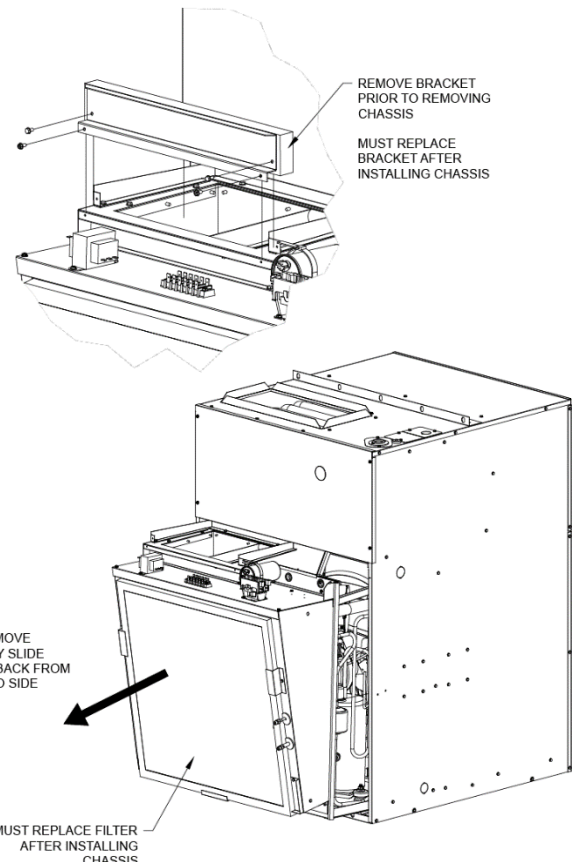

FIGURE 18 - Air Filter Location
5. If an air filter is to be applied to the unit remove lower front access panel to replace filter. (**FIGURE 18 – Air Filter Location**). Place the filter into the filter bracket.